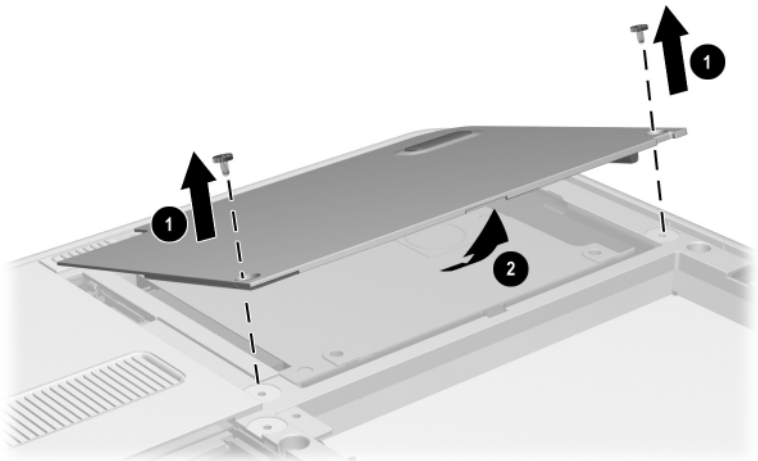

Figure 5-6. Removing the Hard Drive Cover
- b. Remove the two PM2.0 × 4.0 screws ❶ that secure the hard drive cover to the tablet PC (Figure 5-6).
- c. Lift the front edge of the cover up and swing the cover back ❷.